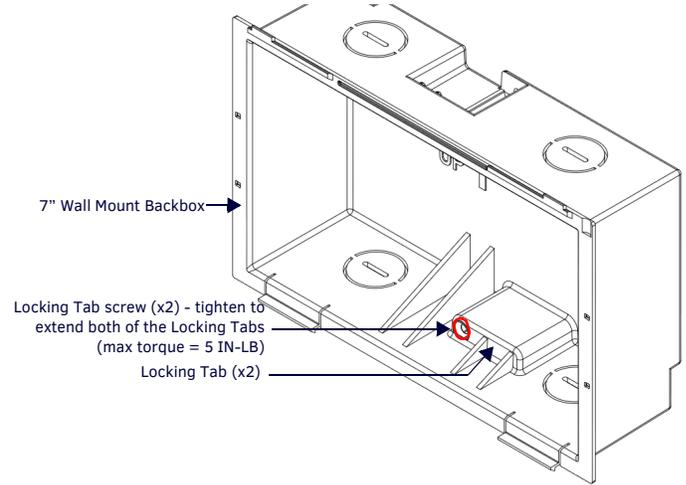

FIG. 3 7" (L2) BACKBOX - LOCKING TABS AND LOCKING TAB SCREWS
- Extend both Locking Tabs by tightening the Locking Tab screws until snug (FIG. 3):